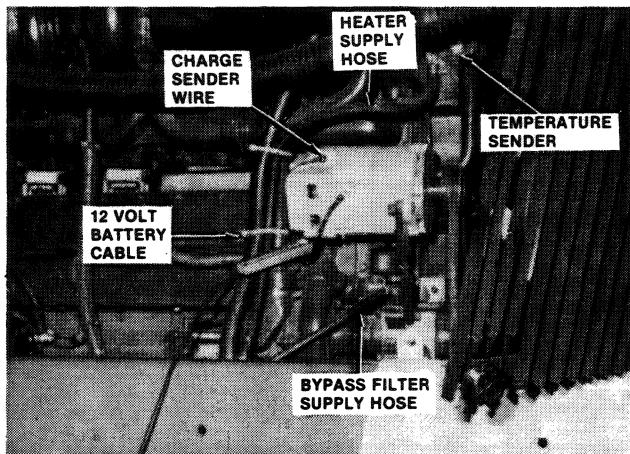

FIGURE 2-2: Engine Right Side
11. Disconnect coolant temperature sender from the engine harness (Figure 2-2).